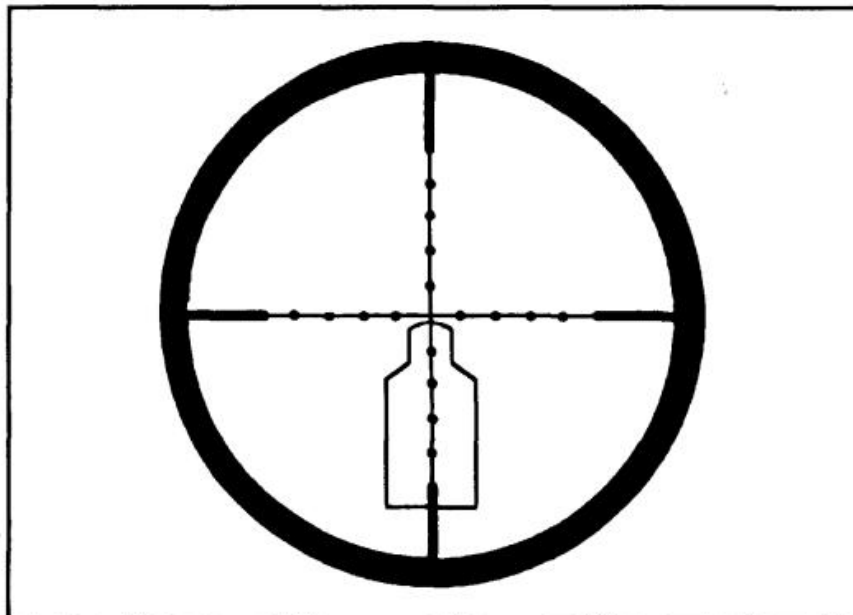
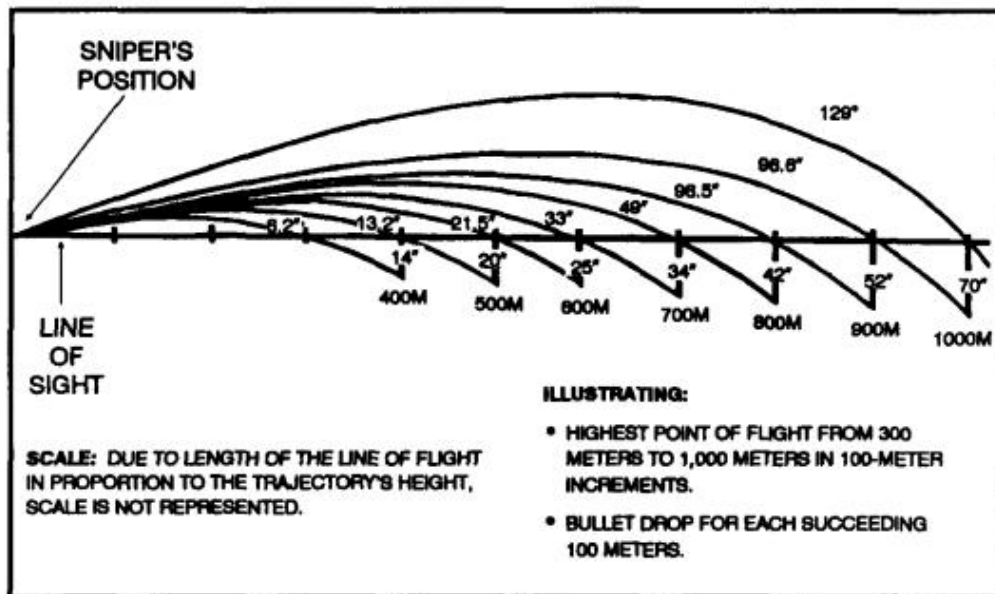

Figure 3-24. Elevation.
Figure 3-25. Trajectory chart.
a. The sniper uses holdoff to hit a target at ranges other than the range for which the rifle is presently adjusted. When the sniper aims directly at a target at ranges greater than the set range, his bullet will hit below the point of aim. At lesser ranges, his bullet will hit higher than the point of aim. If the sniper understands this and knows about trajectory and bullet drop, he will be able to hit the target at ranges other than that for which the rifle was adjusted. For example, the sniper adjusts the rifle for a target located 500 meters downrange and another target appears at a range of 600 meters. The holdoff would be 25 inches, that is, the sniper should hold off 25 inches above the center of visible mass in order to hit the center of mass of that particular target (Figure 3-24). If another target were to appear at 400 meters, the sniper would aim 14 inches below the center of visible mass in order to hit the center of mass (Figure 3-25).